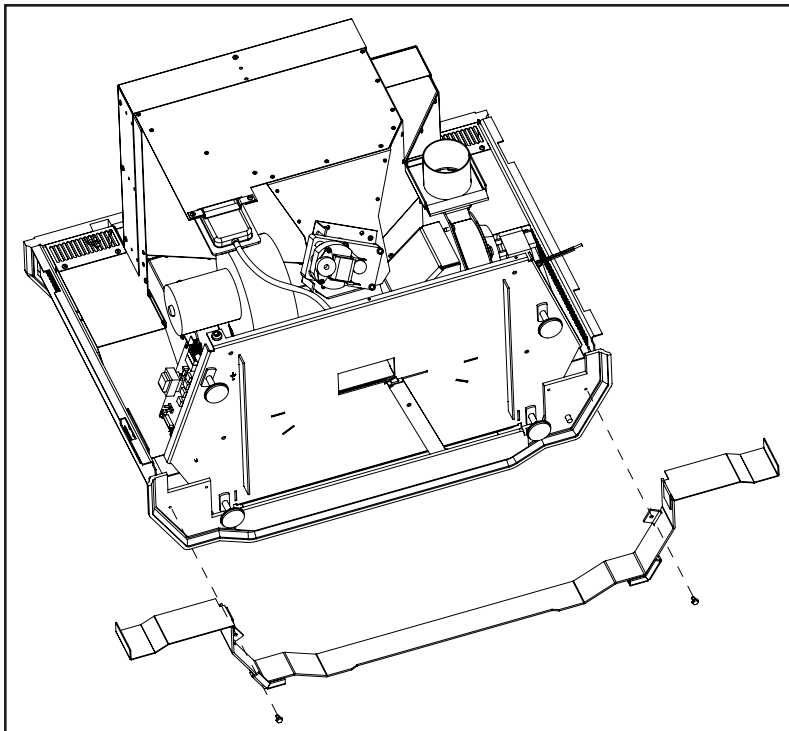

Figure 9: Installing Cast Skirt.
2. Using two (2) screws provided attach the cast skirt to the bottom of the unit as shown in Figure 9.